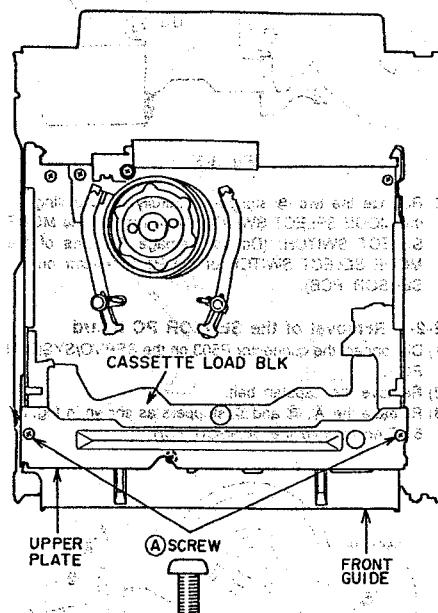

Fig. 3-1
- 1) Remove the two **(A)** screws on the UPPER PLATE, as shown in Fig. 3-1 then remove the UPPER PLATE.